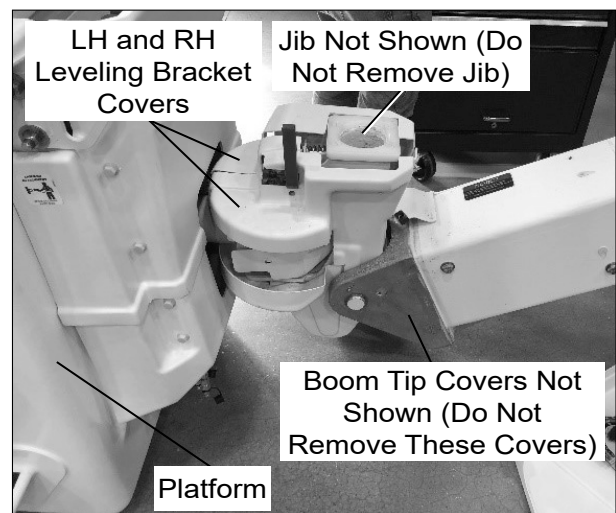

Figure 1 – Platform Area
4. Remove the left hand and right hand platform leveling bracket covers (refer to Figure 1). Do not remove any other covers, and do not remove the jib, if equipped, even though those items are shown removed in Figure 1.